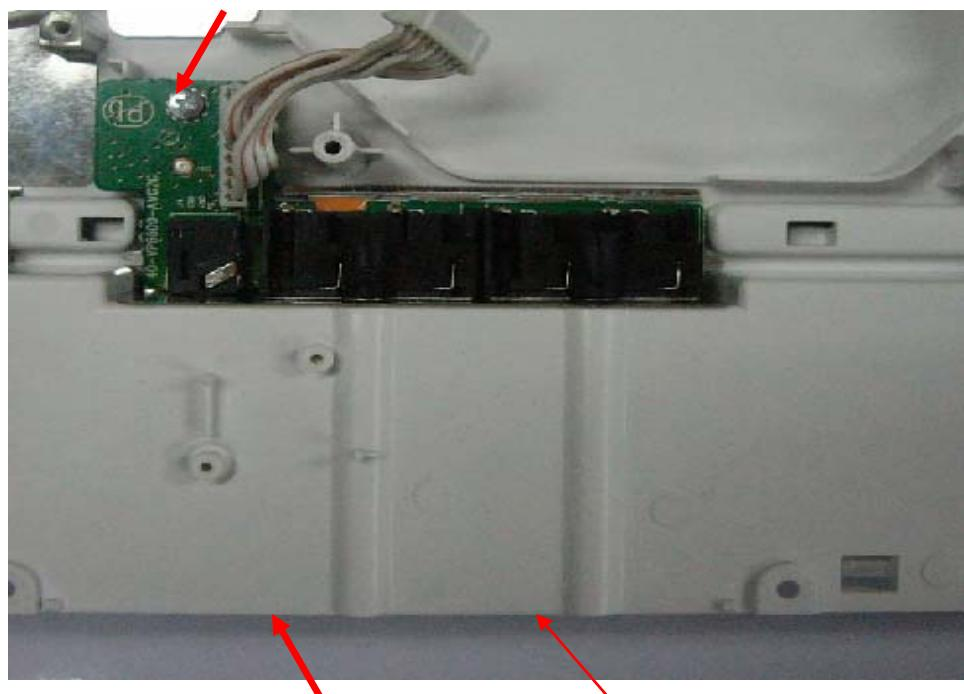

Figure 14
Step9: Dismantling AV Board . Remove the 3screws around the board. (Figure 14)